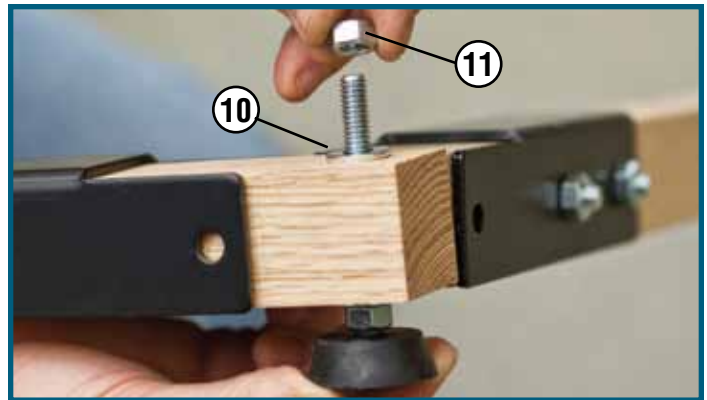

Fig. 7
2. Insert Leveling Leg (6) into the side board and fasten it in place with another 5/16" Flat Washer (10) and 5/16"-18 Hex Nut (11). **Fig. 7.**
3. Repeat with other Leveling Leg (6).